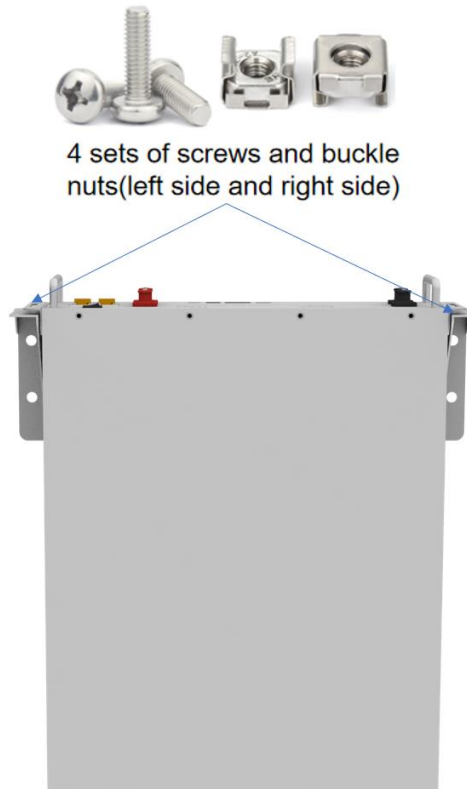

Figure 4-4
- e) Carry the battery and hold it. Fix the battery to the support after fixing it to the wall. Ensure that battery mounting ears are aligned with the left and right holes on the support, as shown in Figure 4-4.